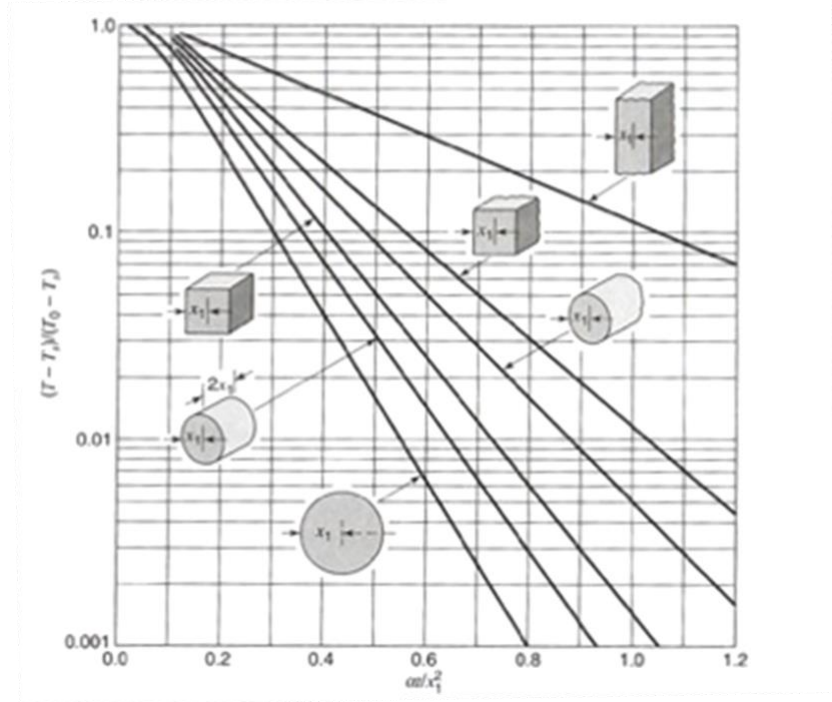

Figure 2 Temperature histories in a semi-infinite solid with surface convection
For the large value, the data is provided in Figure 2, so that (1) calculated normalized temperature of Y-axis